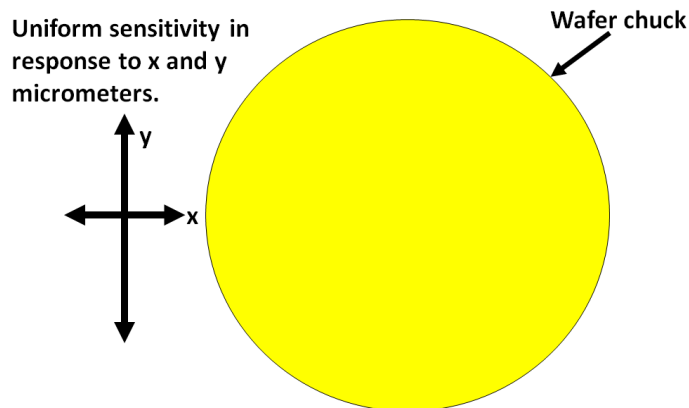

Figure 10 Impact of x and y micrometers on the positioning of the wafer chuck.
- i) The x and y micrometers impact the positioning of the chuck across the entire area. (**Figure 10**).